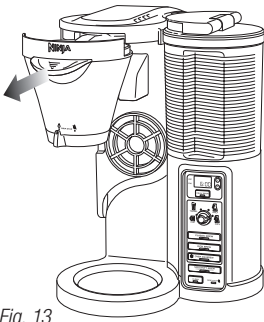

Fig. 13
- 1 Open the brew basket by sliding the brew basket out of the brewer. (Fig. 13)